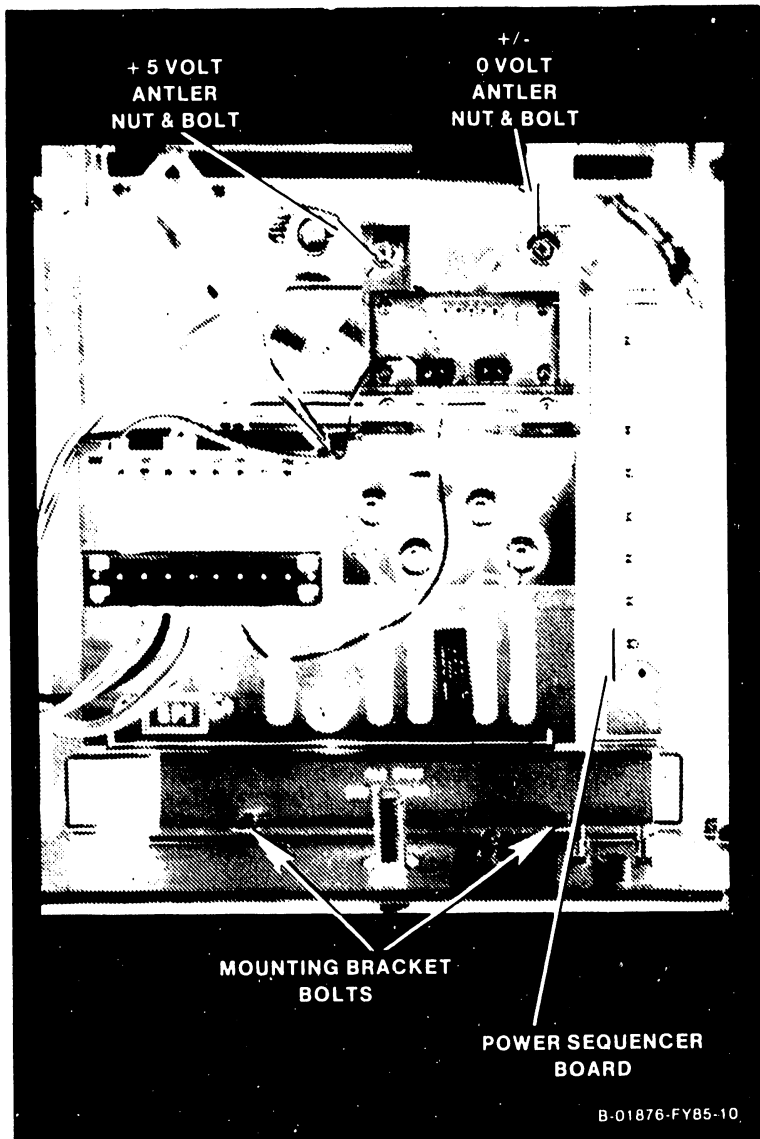

Figure 5-38B. VS-85-H Switching Power Supply Removal
3. Slide out the Power Sequencer board from the board guides to the right of the switching power supply. (Figure 5-38B.)